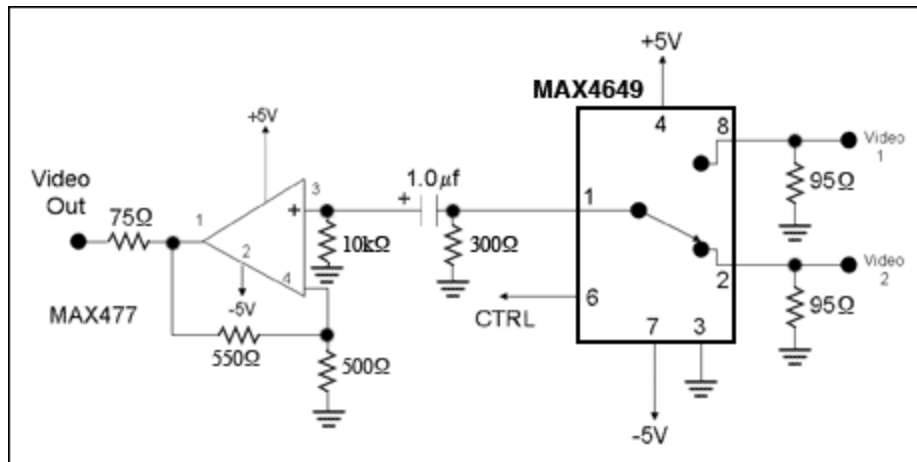

Figure 2. Simple 2:1 CVBS video switcher.
terminated when in use. The switch in **Figure 2** is a complete circuit for a 2:1 video switch with video buffer. It is designed for bipolar operation with a  $\pm V$  supply.
**S-video**, seen primarily on Hi-8 camcorders and DVDs, produces a wider bandwidth picture by sending two signals, the luminance (luma) and chrominance (chroma) signals. Each of these signals is carried on a special DIN connector. The luminance is a wider bandwidth version of the composite signal, but with no color information. The chrominance is the encoded R-Y and B-Y signals. Because the Y signal is now higher bandwidth and the signal does not need to go through special filters to separate the two signals, a much better video signal can be sent. Both the luma and chroma signals can be sent using standard video techniques. Bandwidth should be raised to about 10MHz on the luma signal. The type of circuit in Figure 2 can be used for S-video with two channels (two sets of switches and buffers).